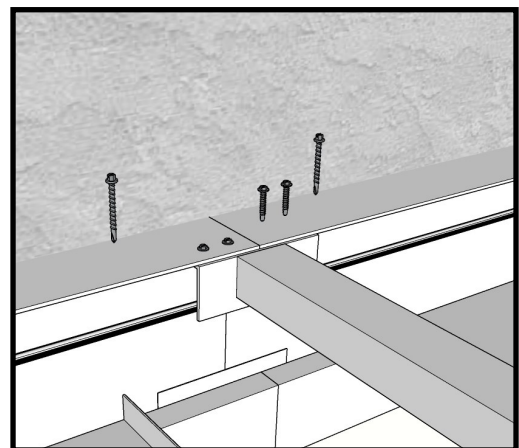

Fig 7
4. Align and hang first canopy by sitting rear channel of canopy into two lower hanging brackets (#8). Once canopy is aligned and sitting in brackets, attach canopy to bracket with #14x2" TEK screws (see fig 7). Continue supporting canopy with lifting equipment until a minimum of two tiebacks are attached.